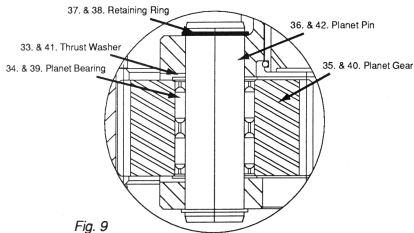

Fig. 9
1. Lubricate planet bearings (34) and press into planet gear (35). (Fig. 9)
2. Lubricate thrust washers (33), place one washer on each side of planet gear (35). Place planet gear and thrust washer in planet carrier (25). (Fig. 9)
4. Secure planet pin (36) with retaining rings (37) on each end of planet pin. (Fig. 9)
- Lubricate spline on intermediate gear (23), seat retaining ring (24) in groove between spline and gear. Stand intermediate gear on gear end, lay retaining ring (24) on splined end, slide small planet carrier assembly spline onto splined end of intermediate gear (23). With appropriate tool, seat retaining ring (24) into groove at end of intermediate gear (23).
- Lubricate planet bearings (39) and press into planet gear (40). (Fig. 9)
- Lubricate planet pin (42) and insert into planet pin hole in planet carrier (19) from splined side of carrier.
- Lubricate thrust washers (41), place one washer on each side of planet gear (40). Place planet gear and thrust washer in planet carrier (19). (Fig. 9) Drive planet pin (42) through thrust washers and planet gear, into opposite planet pin hole in carrier housing. (Fig. 5 & 9)
- Secure planet pin (42) with retaining rings (38) on each end of planet pin. (Fig. 9)
- Using an appropriate tool, press bearing cups (10) and (14) into the housing.
22. Carefully drive bearing cups (10 & 14) out of housing (11).
23. Remove retaining rings (37) from ends of planet pins (36). (Fig. 9)
24. Support small planet carrier (25) spline side down and drive planet pins (36) out of planet carrier (25), from input side of carrier. (Fig. 9 & 5)
25. Remove small planet gears (35) and thrust washers (33) from small planet carrier (25). (Fig. 9)
26. Remove planet bearings (34) from small planet gears (35).
27. Remove retaining ring (24) from intermediate gear (23).
28. Remove intermediate gear (23) from small planet carrier (25).
29. Examine brass thrust plug (22) in end of intermediate gear (23). If wear is apparent, remove by inserting a 1/4" self tapping screw and jacking the plug out of the gear.
30. Remove retaining rings (38) from ends of planet pins (42). (Fig. 9)
31. Support planet carrier (19) spline side down and drive planet pins (42) out of planet carrier (19). (Fig. 9 & 5)
32. Remove planet gears (40) and thrust washers (41) from planet carrier (19). (Fig. 9)
33. Remove planet bearings (39) from planet gears (40).